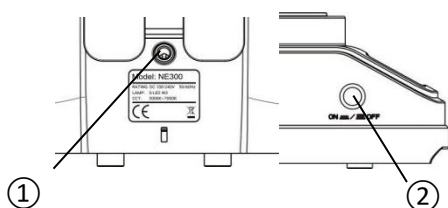

Fig.1
**4-1 Turn on the power (Fig.1)**